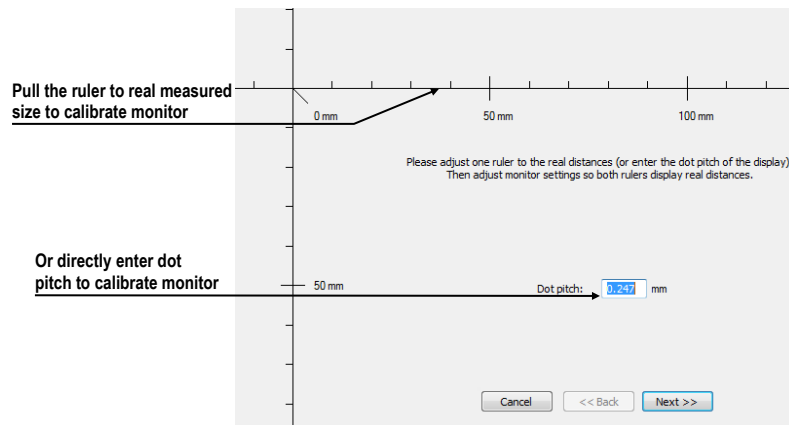

Figure 70 – Monitor calibration
2. The **Full screen calibration** dialog is then displayed on the selected monitor (see Figure 70).